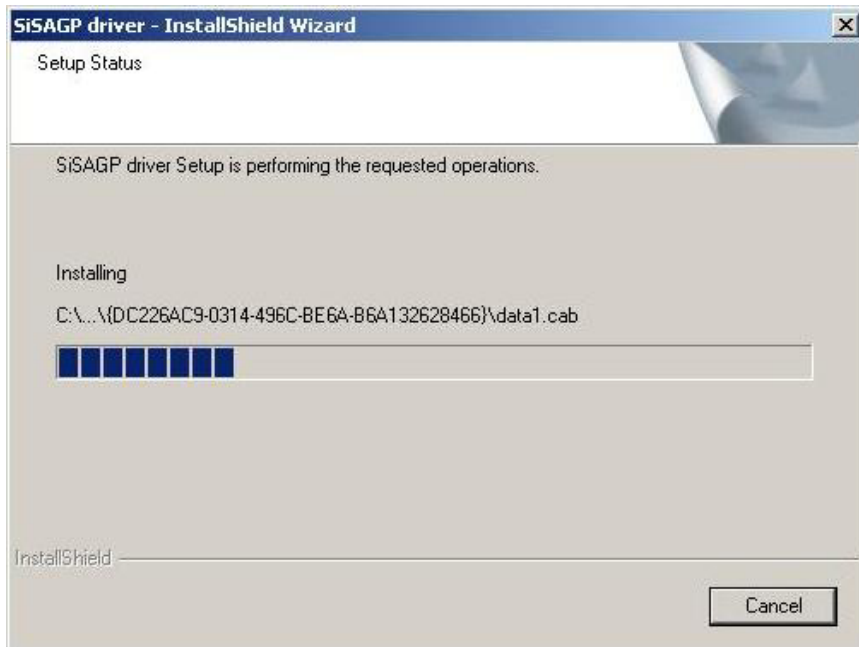

Figure 6-4: Installing Screen
Step 5: The installation shield will then start to extract and install files as shown in **Figure 6-4.**